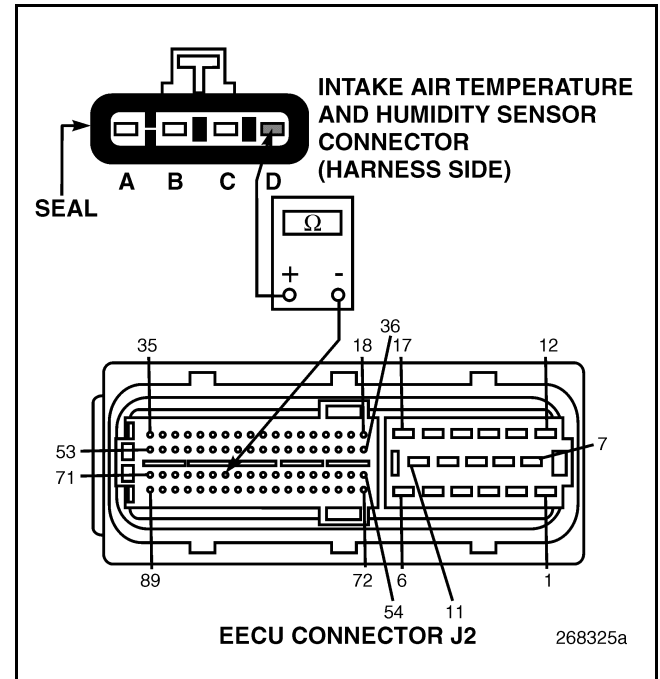

Figure 310
4. Check for continuity between pin D of the IATH Sensor harness connector and EECU harness connector J2 pin 65 (see Figure 310).